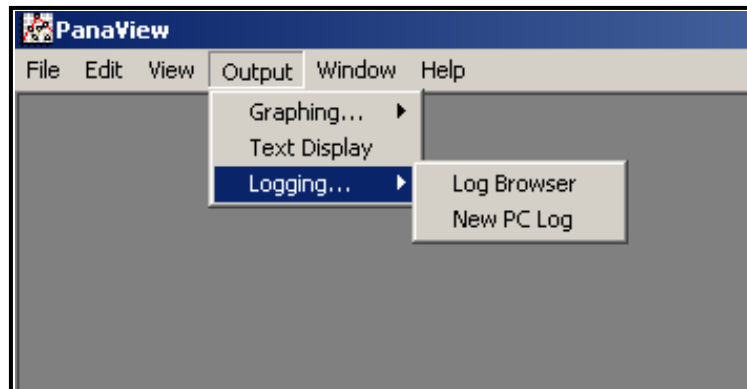

Figure 24: Log Browser in the Logging Option
1. From PanaView, click on the *Logging* option in the *Output* menu. Then click on the *Log Browser* option, as shown in Figure 24 below.